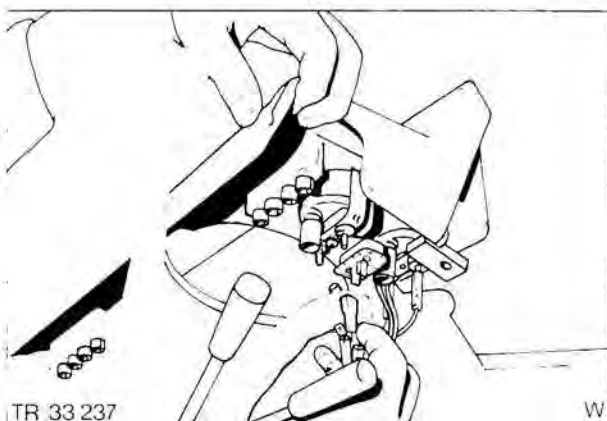

Fig. 19. Disconnecting wires from fuel gauge and regulator
5. Disconnect wires from fuel gauge and voltage regulator, Fig. 19. Unplug gauge illumination socket.